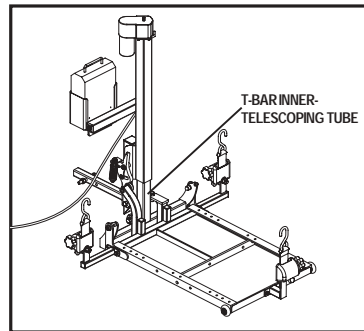

Figure 14. Lift Frame Maintenance
- Lower the platform to the ground, clean away any remnants of old grease from the T-bar inner-telescoping tube, and apply a new coat of all-weather lithium grease to the inner-telescoping tube. See figure 14.